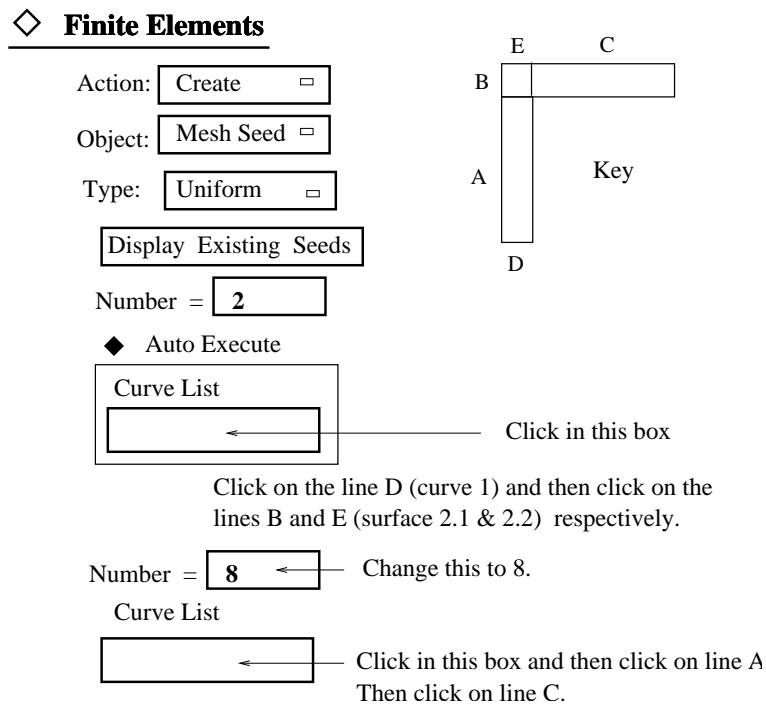

Figure 24: Mesh Seeds
Leave the current setting of Action/Object/Type as Create/Mesh Seed/Uniform (**Figure 24**). The choice of 'Uniform' for 'Type' means that the generated elements will be of equal width. It is possible to generate a graded mesh by changing the 'Type' to 'One Way Bias' or 'Two Way Bias'. However this will not be attempted for this example.
- Now click on the lines marked B, D and E respectively (shown in Figure 24).
- Click on the 'Curve List' again and click on the left hand vertical line (Surface 1.1, marked A in Figure 24). Notice the internal numbering (surface 1 side 1). Where curves were not directly created (as for curves 1 and 2) the internal numbering of entities will be used. Don't be misled by the reference to 'Surface' when you expect 'Curve' to appear.